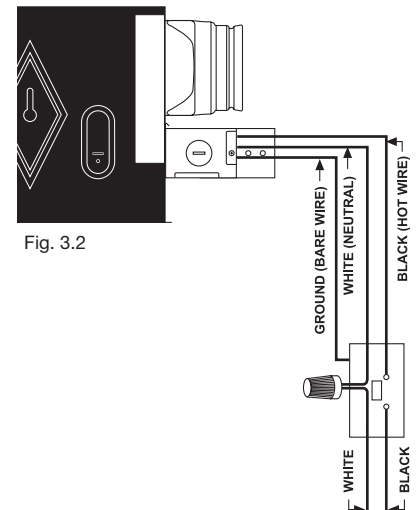

Fig. 3.2
- 4- Using connectors, attach the fan wires located inside the fan wiring compartment to the matching wires coming from the wall switch; black to black (hot); white to white (neutral). (Fig. 3.2)